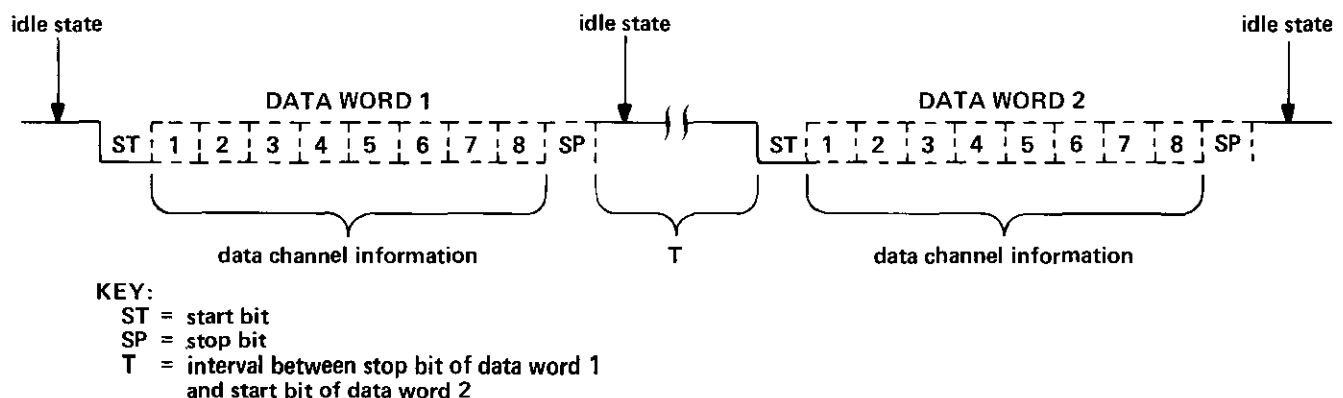

figure 7. Asynchronous serial data word format of 3228
2.12 When the 3228 is optioned for the transmit mode, single-ended voltage levels at the module's eight input data channels are transformed into binary equivalent values as described in paragraph 2.08. These binary values are combined with a start bit and a stop bit to form a 10-bit asynchronous serial data word (figure 7), the format of which is widely used in data communications.